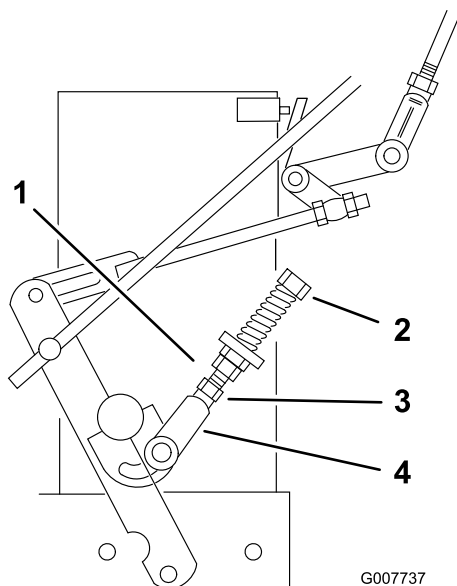

Figure 32
9. If the wheel turns while holding the drive lever in neutral, the neutral control linkages need adjustment (Figure 32). If the wheel stops then go to step 12.
10. Loosen the nut against the neutral control linkage yoke (Figure 32).
11. Adjust the neutral control linkage until the respective drive wheel stops while the drive lever is pulled against the neutral spring (neutral position) (Figure 32).
12. Turn the adjusting bolt approximately 1/4 turn clockwise if the wheel is turning in reverse or turn the bolt approximately 1/4 turn counter-clockwise if the wheel is turning forward (Figure 32).